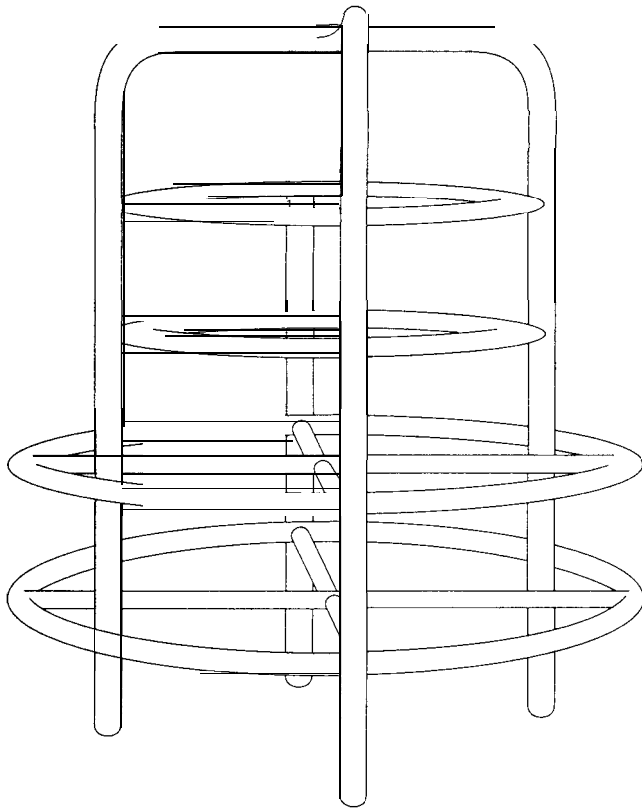

Figure 10-14 Climber With interior Bars
(1) Composite Structure Access. Climbers will not be used as the sole means of composite structure access and egress. A less challenging means of entry and exit should be provided, such as stairways or stepped platforms. Climbers that provide hand support during climbing and at the transition point where the climber connects to the composite structure platform should be selected.
(2) Maximum Height When Attached to Composite Structure. For 4- to 5-year-olds, climbers with a maximum height of 1200 mm (40 inches) will be provided. For 5- to 12-year-olds, climbers with a maximum height of 1400 mm (56 inches) will be provided.
(3) Maximum Height of Freestanding Climbers. For 4- to 12-year-olds, climbers with a maximum height of 1500 mm (60 inches) will be provided.
(4) Free Fall Design. All climbers will have a free fall design. Climbers that have interior climbing bars that could be struck during a free fall from a height greater than 450 mm (18 inches) to the surface (fig 10-14) will not be provided.